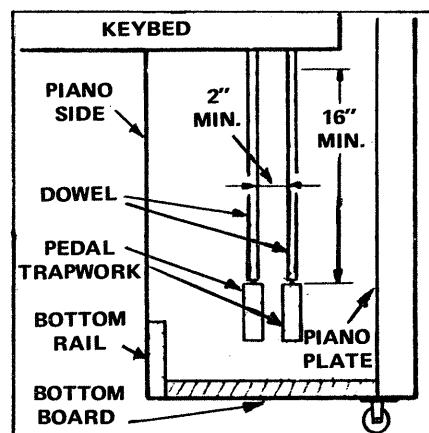

FIGURE 1-21 Determine if a clearance of 2" is available to a height of 16".
- C. If the 4" clearance cannot be met, see if a clearance of 2" is available or can be made available by repositioning the Dowels so that the Pedal Solenoid height can be staggered. The 2" minimum clearance MUST be maintained from the top of the Pedal Trapwork up to a height of 16" as shown in FIGURE 1-21. If this clearance cannot be obtained, the system CANNOT be installed in the piano.